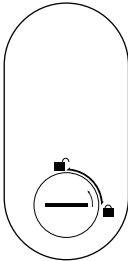
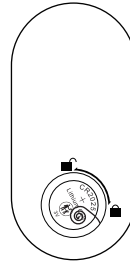

Figure 1
Figure 2
2. To install the battery on the remote control, please unscrew the battery cover counterclockwise as shown in Figure 1, and then insert the battery in the middle of the two coil springs as shown in Figure 2, and pay attention to the face with text on the face. Use CR2025 batteries.